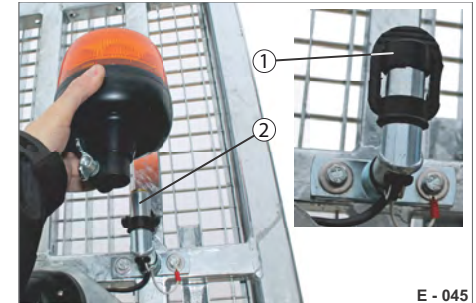

Fig. 34 Disassembling rotating light
- ▶ Attach the rubber cover (Fig. 34/1) on the console to protect against dampness/dirt.